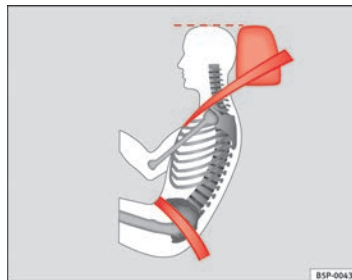

Fig. 13 Correct seat belt and head restraint positions, viewed from side
- The lap part of the seat belt must lie across the pelvis, never across the stomach. The seat belt must lie flat and snugly on the pelvis ⇒ page 25, fig. 13. Pull the belt tight if necessary to take up any slack.